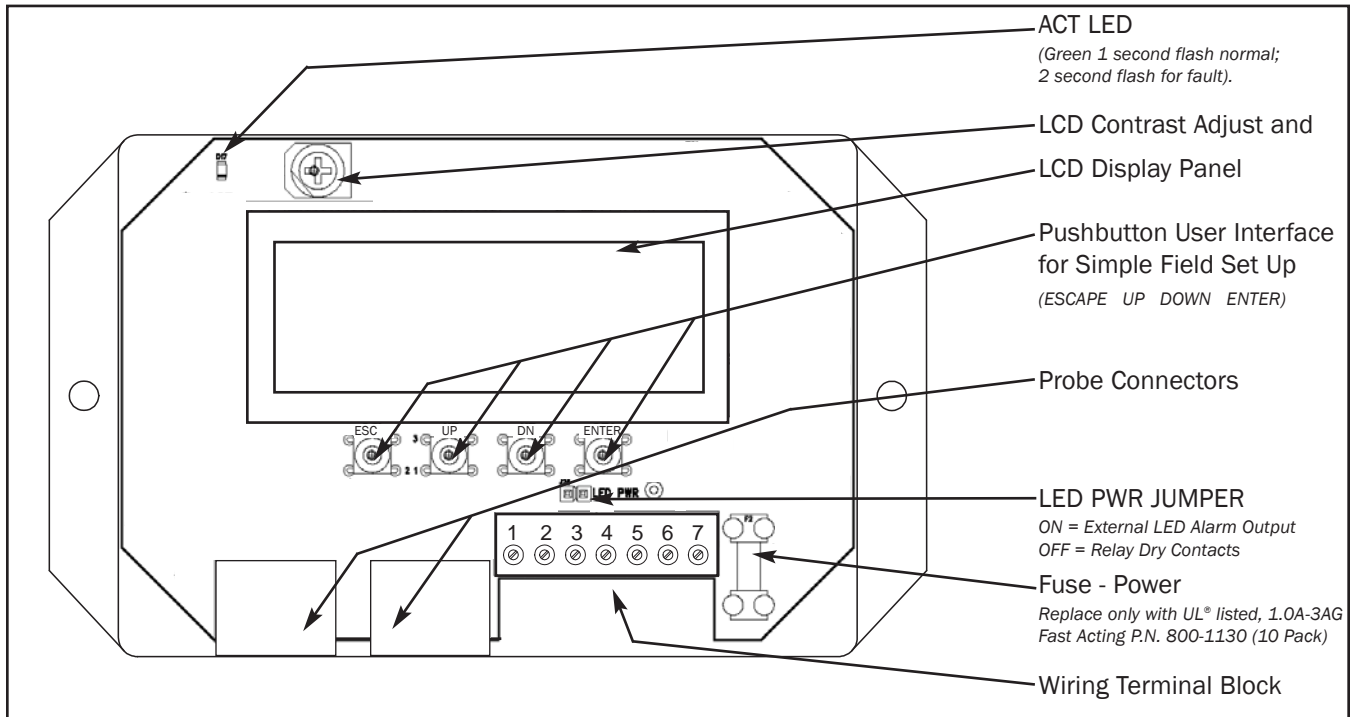

Figure 5. GF-2100-A/GF-2200-A Main Circuit Board Detail
Transmitter wiring consists of connecting the 24VAC input power, the analog output signal wires and optional alarm output wires at the GF-2100-A/GF-2200-A. Refer to Figures 5 and 6 for additional detail. Following installation, the airflow measurement station is ready for operation. Custom setup options (other than the default values) can be entered in the GF-2100-A/GF-2200-A Transmitter Setup procedure detailed later in this document.
1. ☐ Remove the four cover retaining screws at each corner of the transmitter cover in order to gain access to the transmitter Wiring Terminal Block on the main circuit board shown in Figure 5.
3. ☐ Connect 24 VAC power to terminal 7, and the 24V ground at terminal 6 of the wiring terminal block as shown in Figures 5 and 6, observing the previous wiring precautions.
4. ☐ Connect OUT1 Analog/PID Output signal wire at terminal 3, and the signal ground at terminal 2 as shown in Figures 5 and 6 while observing the previous wiring precautions.
5. ☐ Connect OUT2 Analog/PID Output signal wire at terminal 1, and the signal ground at terminal 2 as shown in Figures 5 and 6 while observing the previous wiring precautions.
The GF-2100-A/GF-2200-A provides an alarm output that can be configured as relay dry contacts, or as direct drive (15 mA typical) for an external LED alarm indicator. The alarm output interface is set using the LED PWR jumper on the main circuit board as shown in Figure 5. With the LED PWR jumper on, the alarm output is set to provide an external LED drive (15 mA typical) at terminal 4, with ground return at terminal 6. With the LED PWR jumper OFF, the alarm output is set to provide relay dry contacts between terminals 4 and 5 (contacts rated at 30VDC/24VAC 3 amps maximum). The Alarm can be set as contacts close or contacts open on alarm as detailed in the Transmitter Setup menu later in this manual.
The alarm interface can be configured as relay dry contacts (30VDC/24VAC 3 amp maximum either N.O. or N.C.) or as direct LED drive output (15 mA typical) using the LED PWR jumper on the transmitter circuit board shown in Figure 5.